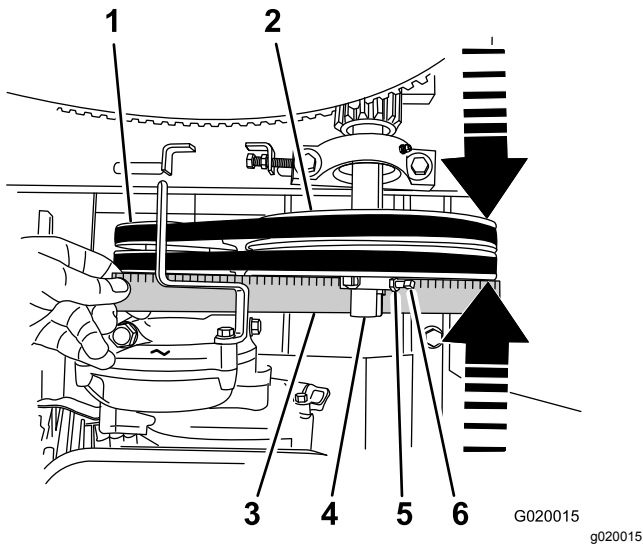

Figure 68
- B. Loosen the locknuts and setscrews that secure the idler pulley to the idler shaft (Figure 68).
- C. Using a soft-face mallet, tap the idler pulley forward or backward along the idler shaft until the engine pulley and idler pulley are aligned to the straight edge (Figure 68).
- D. Tighten the set screws and locknuts that secure the idler pulley to the idler shaft (Figure 68).
5. Place a straightedge across the face of the engine pulley and idler pulley (Figure 68).